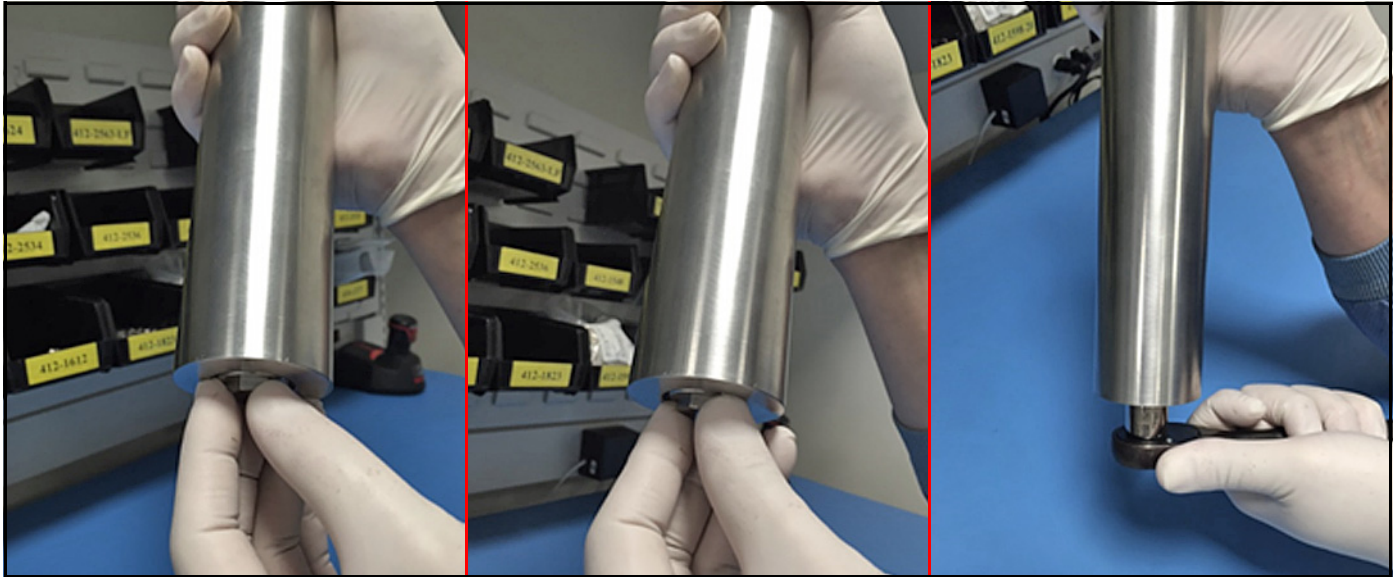

Figure 92: Replacing Mirror End Cap Assembly into the Absorption Cell
- Using tweezers, insert the mirror into the hole on top of the shim, with the gold-plated side facing up. Thread the end cap into the bottom of the absorption cell tube. Secure the threaded end cap in place with a 5/8" socket wrench (see *Figure 92* below).